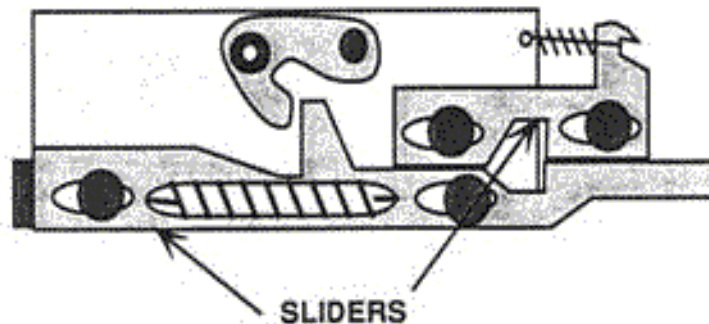

Figure 22
11. Work the levers back and forth as shown in Figure 22. Arrows are shown on the release points. Work these points back and forth and respray as necessary until all of the old grease is gone.